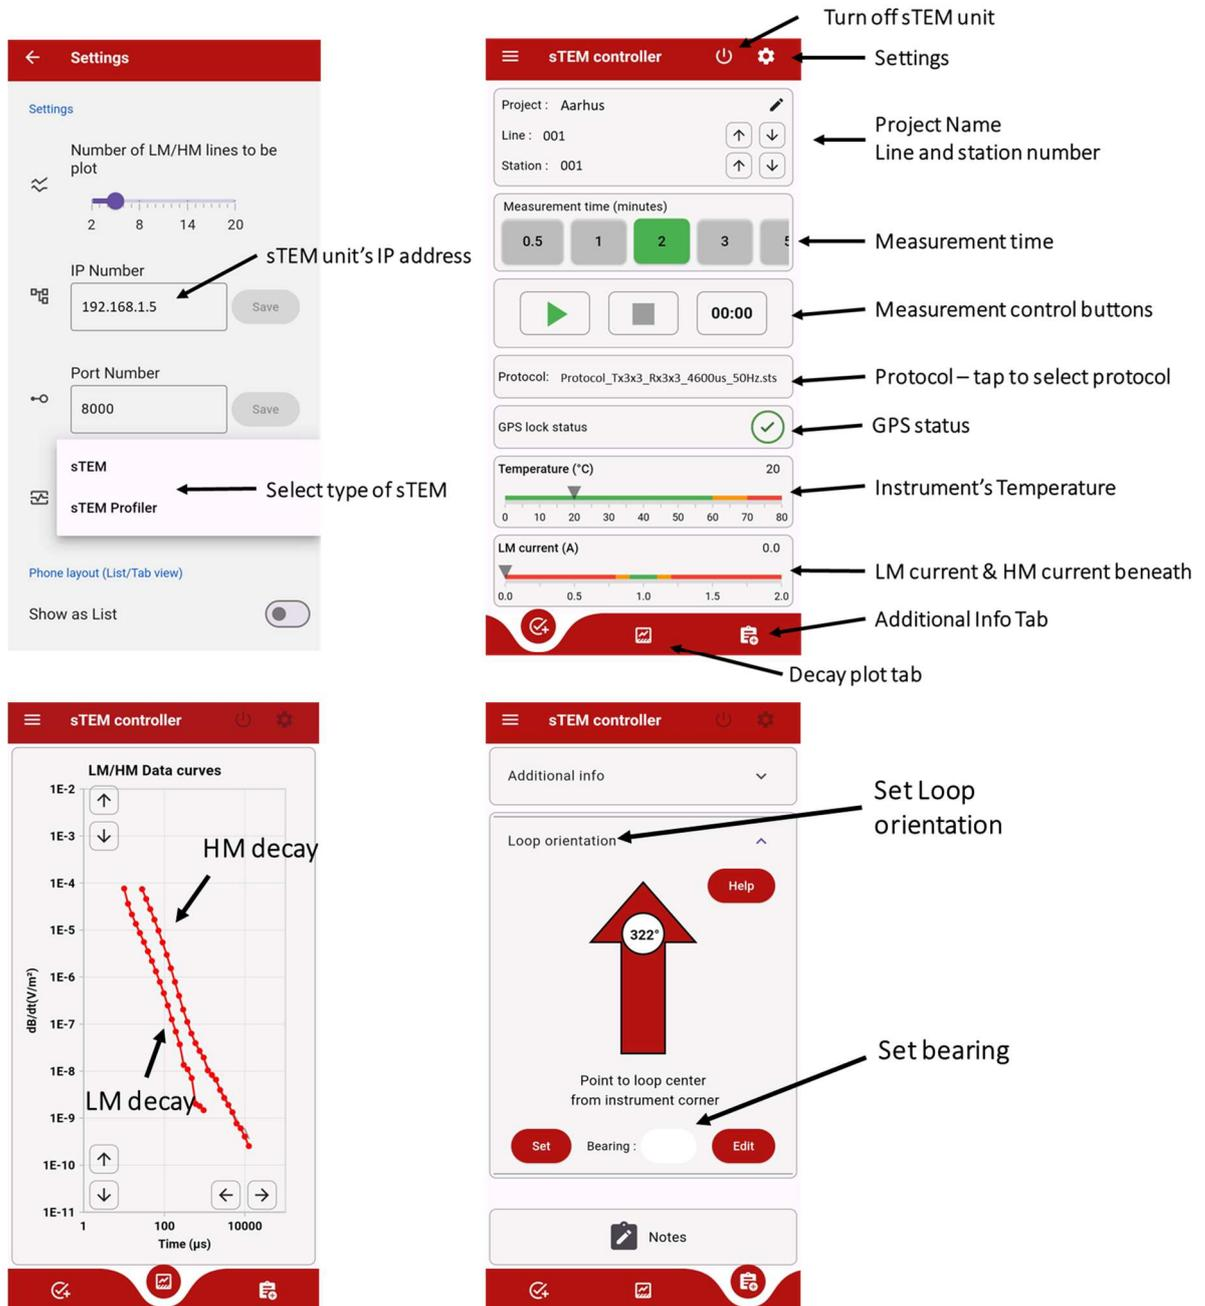

Figure 18. sTEM Controller app environment. Version 1.1.0.
- Open the sTEM Controller app, which should display the controller interface as shown in Figure 18, if proper connected.
Figure 18 explains the interface of the sTEM controller App.
- The sTEM unit records the GPS position where the unit is placed. To correct the GPS-position to the center of the Rx coil, the bearing (geographical direction) from the sTEM unit to the Rx coil center is needed. When stopping a measurement, you will be prompted to set the bearing. using the build-in compass of the mobile device. You can also set the bearing during a measurement from the Additional tab/Loop Orientation (see Figure 18).